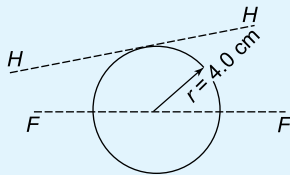

Figure 9.21
3. For the circle shown in Figure 9.21, find the second moment of area and radius of gyration about (a) axis FF and (b) axis HH